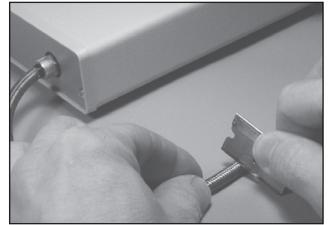

Figure 1
3. Carefully cut the water hose with a scalpel or single-edged razor (figure 1). Take care not to fray the woven sheathing.